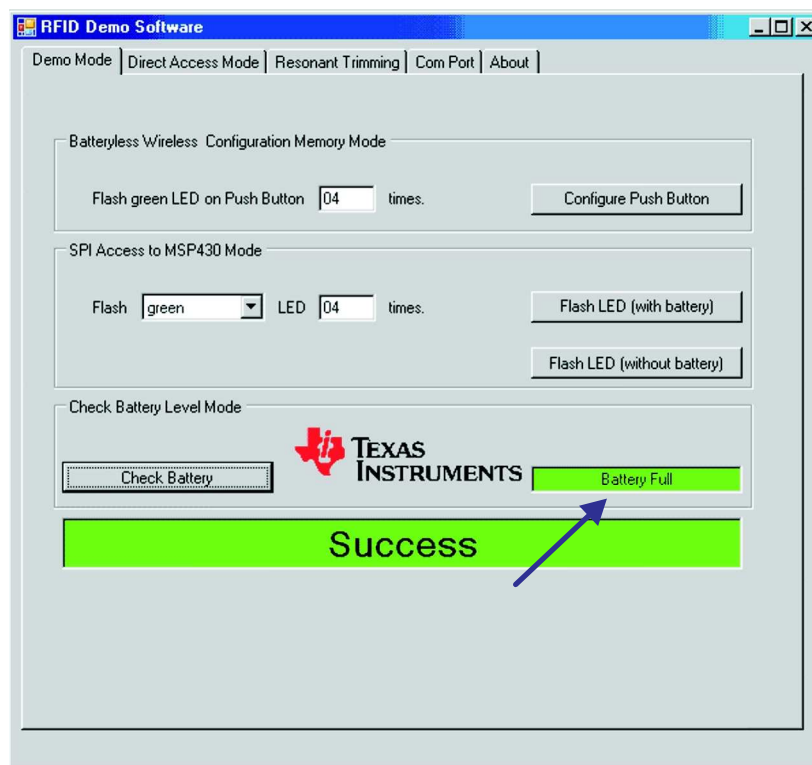

Figure 23. Demo 3 - Check Battery Level Mode: High
- Green: High voltage (see Figure 23)